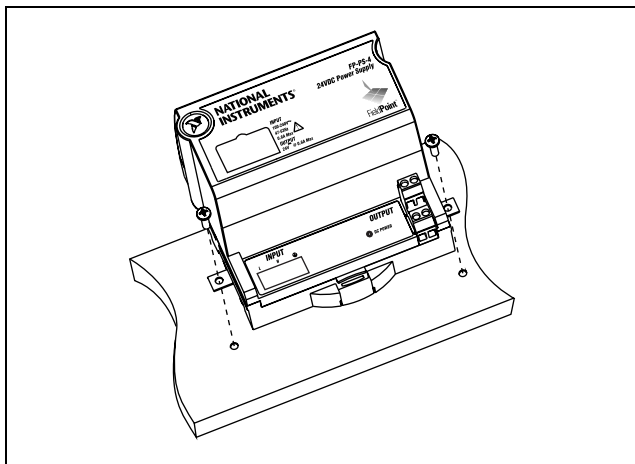

Figure 5. Connecting Your FP-PS-4 to the Panel
4. Mount the FP-PS-4 to your panel with the panel mount accessory, as shown in Figure 5. The installation guide that comes with the panel mount accessory includes a template that you can use to drill pilot holes for mounting FieldPoint modules. For maximum cooling, leave a 25 mm (1.0 in.) space between the FP-PS-4 and other devices.